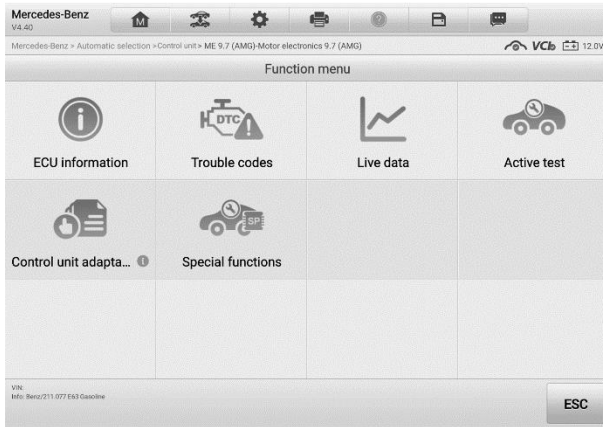

Figure 4-7 Sample Function Menu Screen
- Column 4 — performs further diagnosis and other test activities. A Function Menu screen (*Figure 4-7*) shall display when you tap the  button.